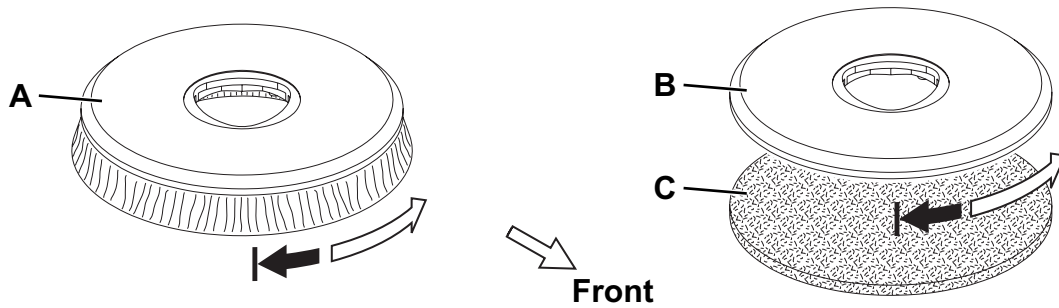

Figure 3
*Install either the brush (A, Fig. 3) or the pad-holder (B and C) according to the type of floor to be cleaned.*
2. Lift the brush/pad-holder deck (13) by prying the handlebar (2).
3. Place the brush (A, Fig. 3) or the pad-holder (B - C) under the deck.
4. Lower the deck (13) by using the handlebar (2).
5. Turn on the machine by pressing the switch (41).
6. Press the push-button (47) for a few seconds, to engage the brush/pad-holder to the deck hub (13). If necessary, repeat the procedure until the brush/pad-holder is engaged.